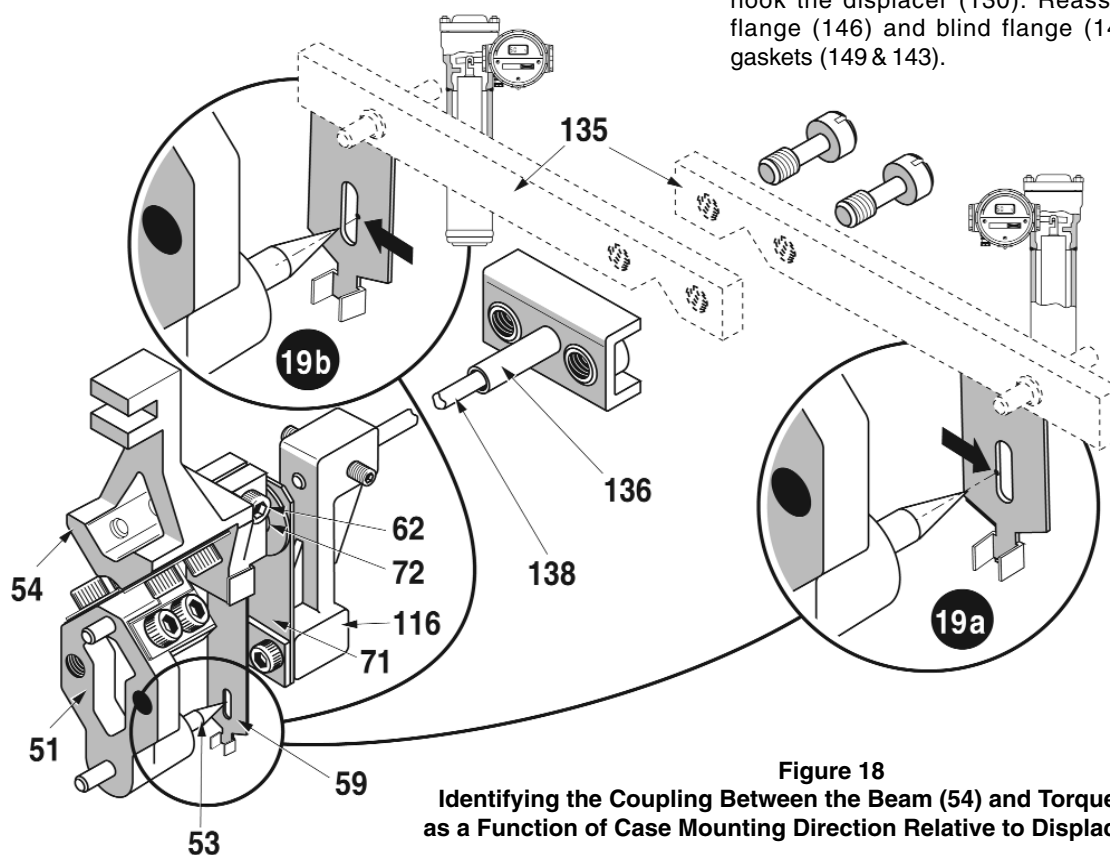

Figure 18
6.4 Installing a DLT Case and Torque Tube Sub-assembly (Figure 18)
- **Left mounting:** see Figure 18 a.
- **Right mounting:** see Figure 18 b.